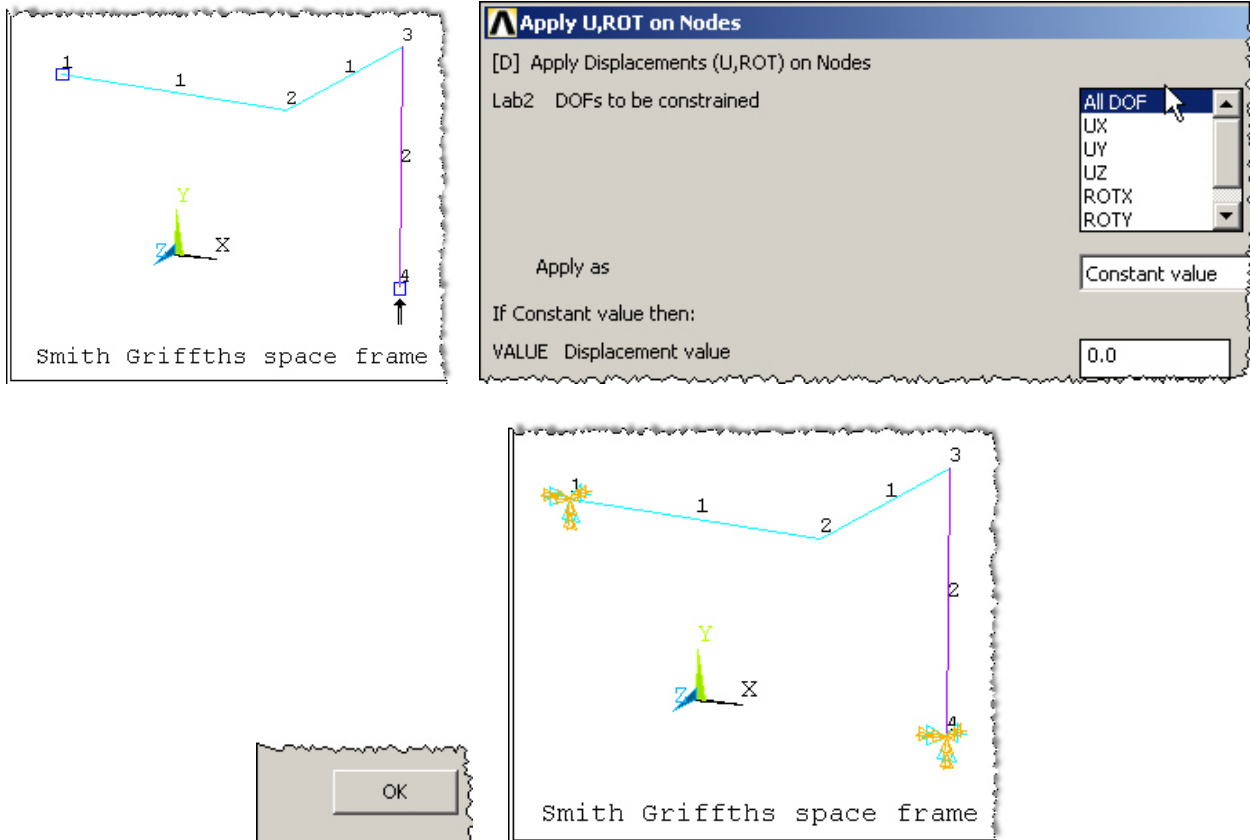

Figure 20 Picking nodes to restrain all displacements and rotations
3. In the graphics window, Figure 20, select top **node 1** and bottom **node 4** (for complete restraints), **OK**. After the panel changes form, highlight the fixed option for all of the degrees of freedom components (**All DOF**) as the **DOF to be constrained**
- Review the graphical restraint symbols in Figure 20 to verify the choice you picked from the list of available displacement restraints.